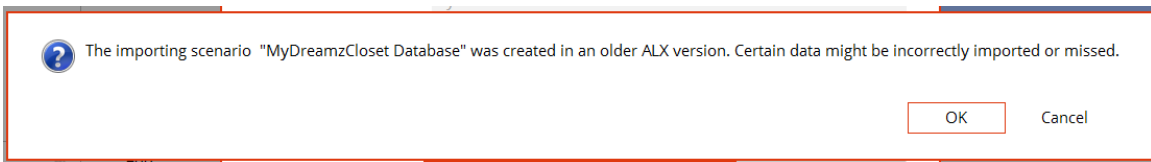

Figure 17: Error Message might appear...
- ✓ Figure 17 error message might appear....click OK.